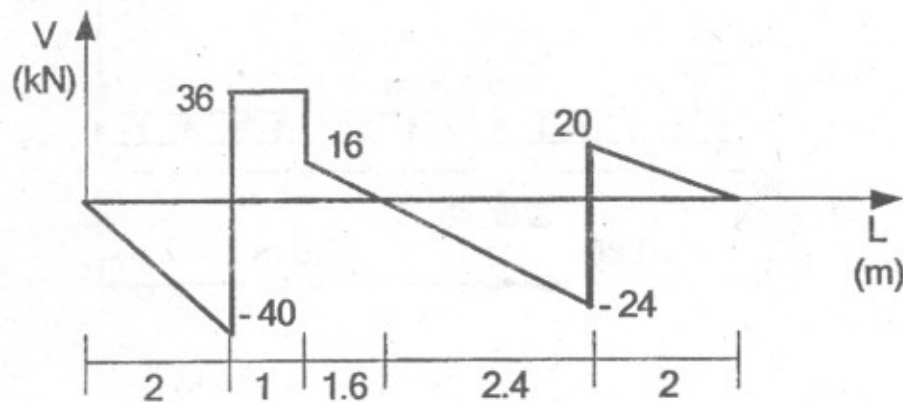

Fig. 4
- (b) Plot the load and bending-moment diagram from the shear force diagram shown in Fig. 4 : [8]